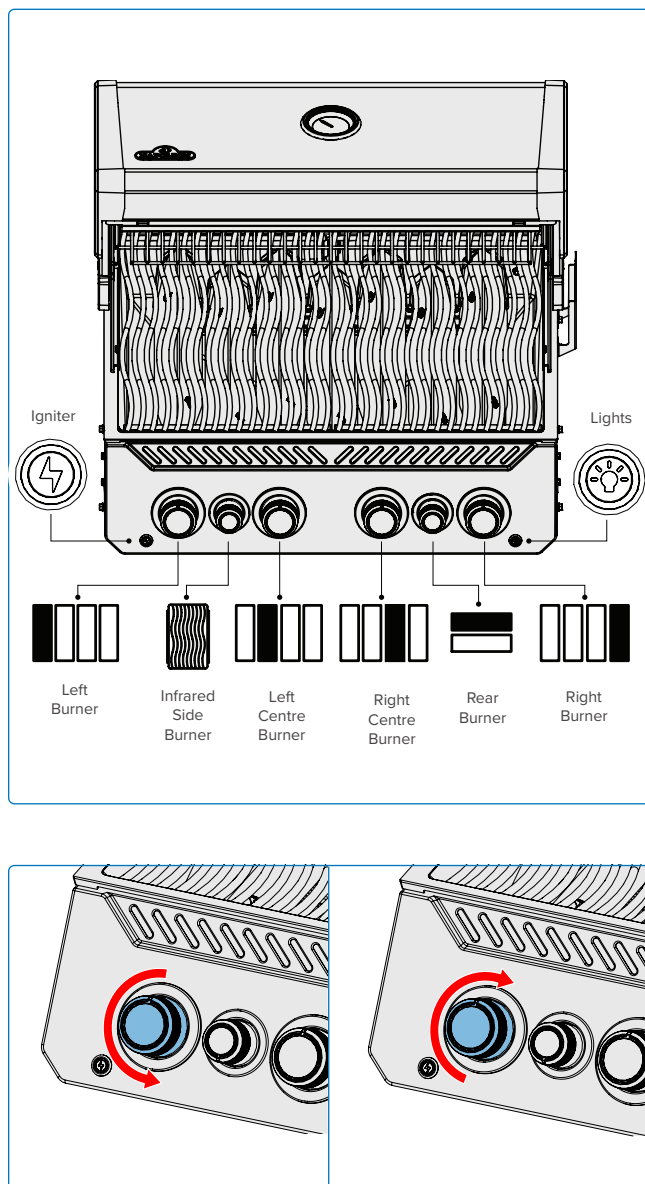

Fig. 6
4. If the pilot and burner will not light in 5 seconds – turn the control knob clockwise to the OFF position. Wait 5 minutes for gas to dissipate. Repeat steps 2 and 3 (**Fig. 6**), or see "**Alternative Ignition Instructions**".
5. If the burner will not light – turn burner control knob clockwise to the OFF position. Wait 5 minutes. Repeat steps 3 and 4. (**Fig. 6**), or see "**Alternative Ignition Instructions**".